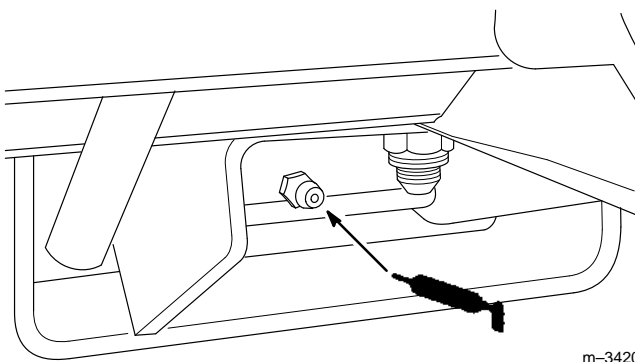

Figure 34
6. Grease the fitting on the brake pedal (Fig. 34).